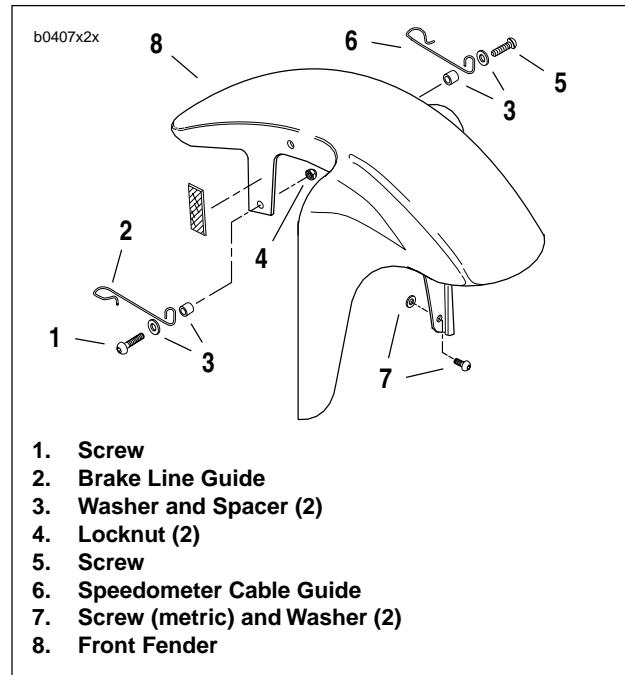

Figure 2-98. Front Fender
2. See Figure 2-98. Remove both lower mounting screws (metric) and washers (7).
3. Remove upper mounting screws (1, 5) and washer and spacer (3) on each side. Do not remove brake line guide (2) and speedometer cable guide (6) from around lines/cables unless necessary.
1. Place washer and spacer (3) around brake line guide (2) as shown in Figure 2-98. The guide retaining loop points outward and back. Install screw (1) through assembly, but do not tighten at this time.
2. Place washer and spacer (3) around speedometer cable guide (6). The guide retaining loop points outward and back. Install screw (5) through assembly, but do not tighten at this time.
3. Install lower mounting screws (7) (metric). Plastic washer fits between fork leg and back of fender. Tighten to 10-15 **in-lbs** (1-2 Nm).